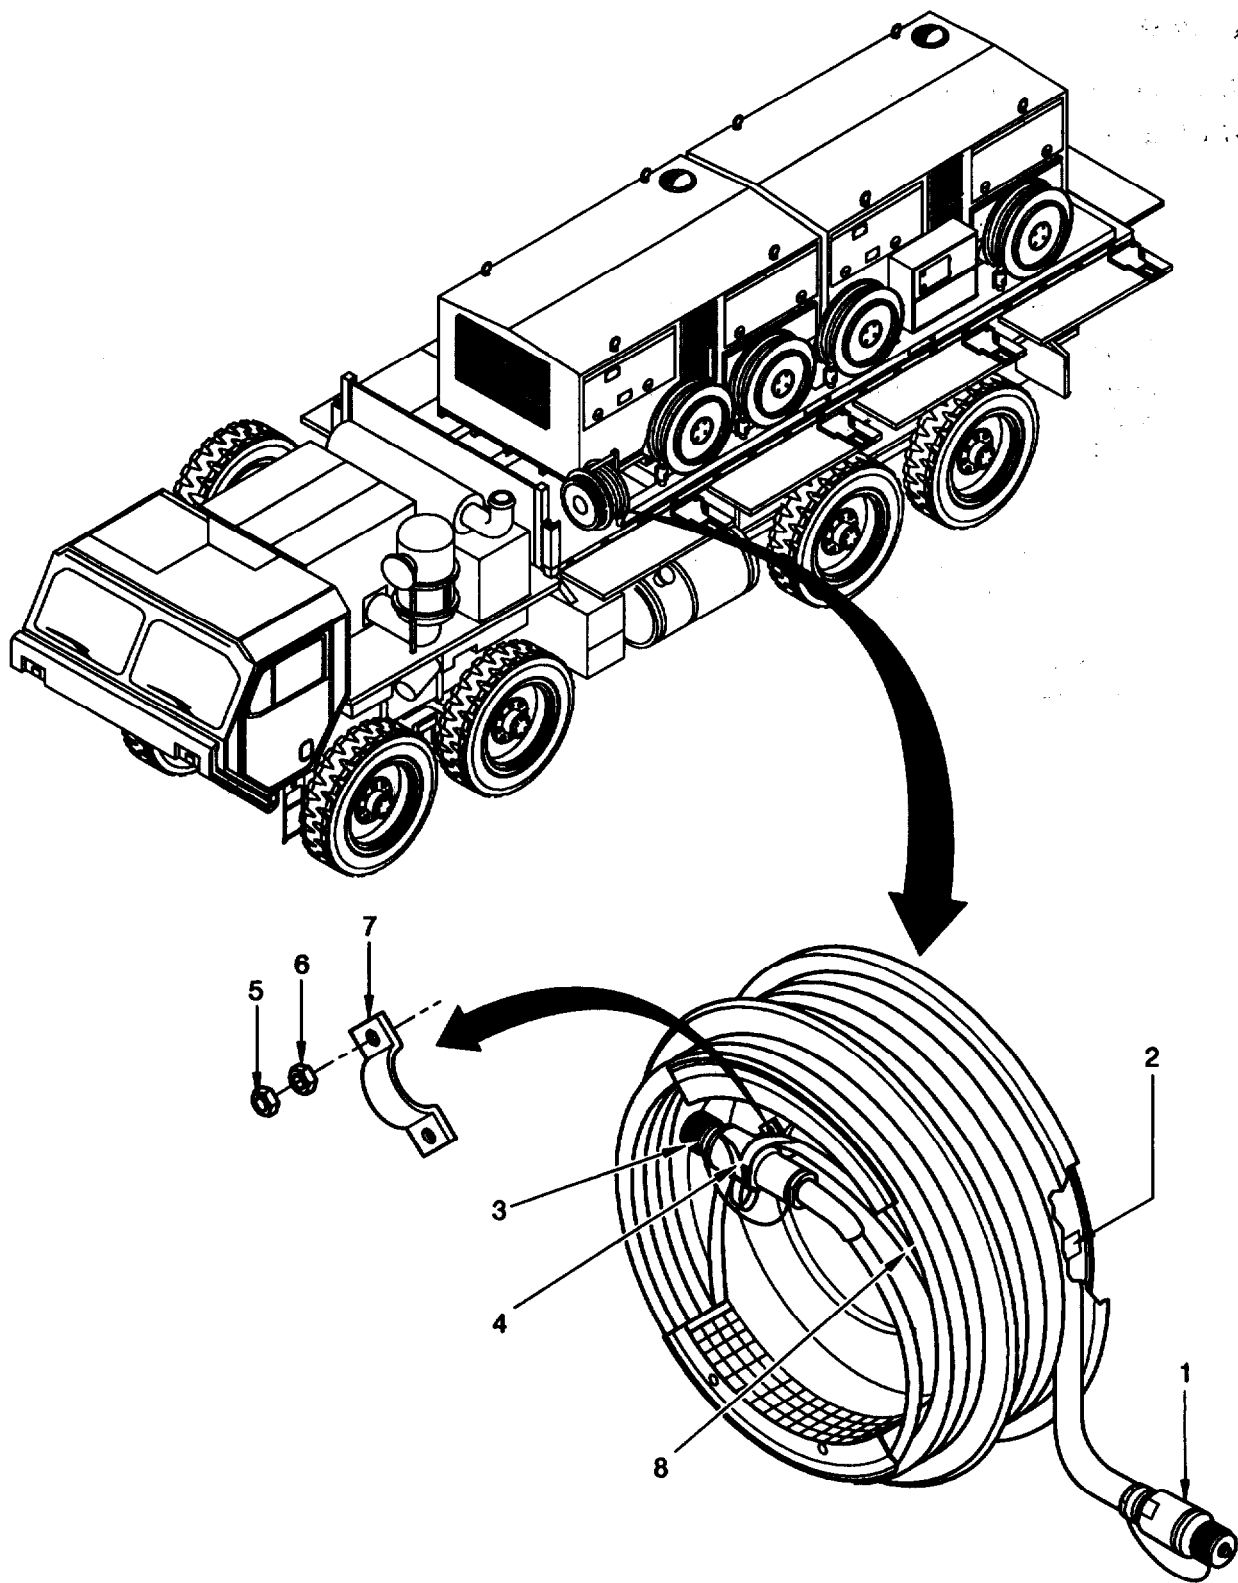

Figure 4-18 Control Cable.
- **After unwinding the cable drum, make sure the ratchet (2, figure 4-18) stays latched. The spring on the unwound cable drum is fully tensioned after 27 revolutions. Failure to observe this warning could result in severe personal injury or death.**
- a. Completely unwind cable section with plug (1, figure 4-18) from cable drum.
- b. Unwind cable section with plug (3):
- (1) Undo strap clip (4).
- (2) Unwind cable manually.
- c. Remove two nuts (5, 6) and clamp (7), and pull cable completely out of the cable drum through slot (8).